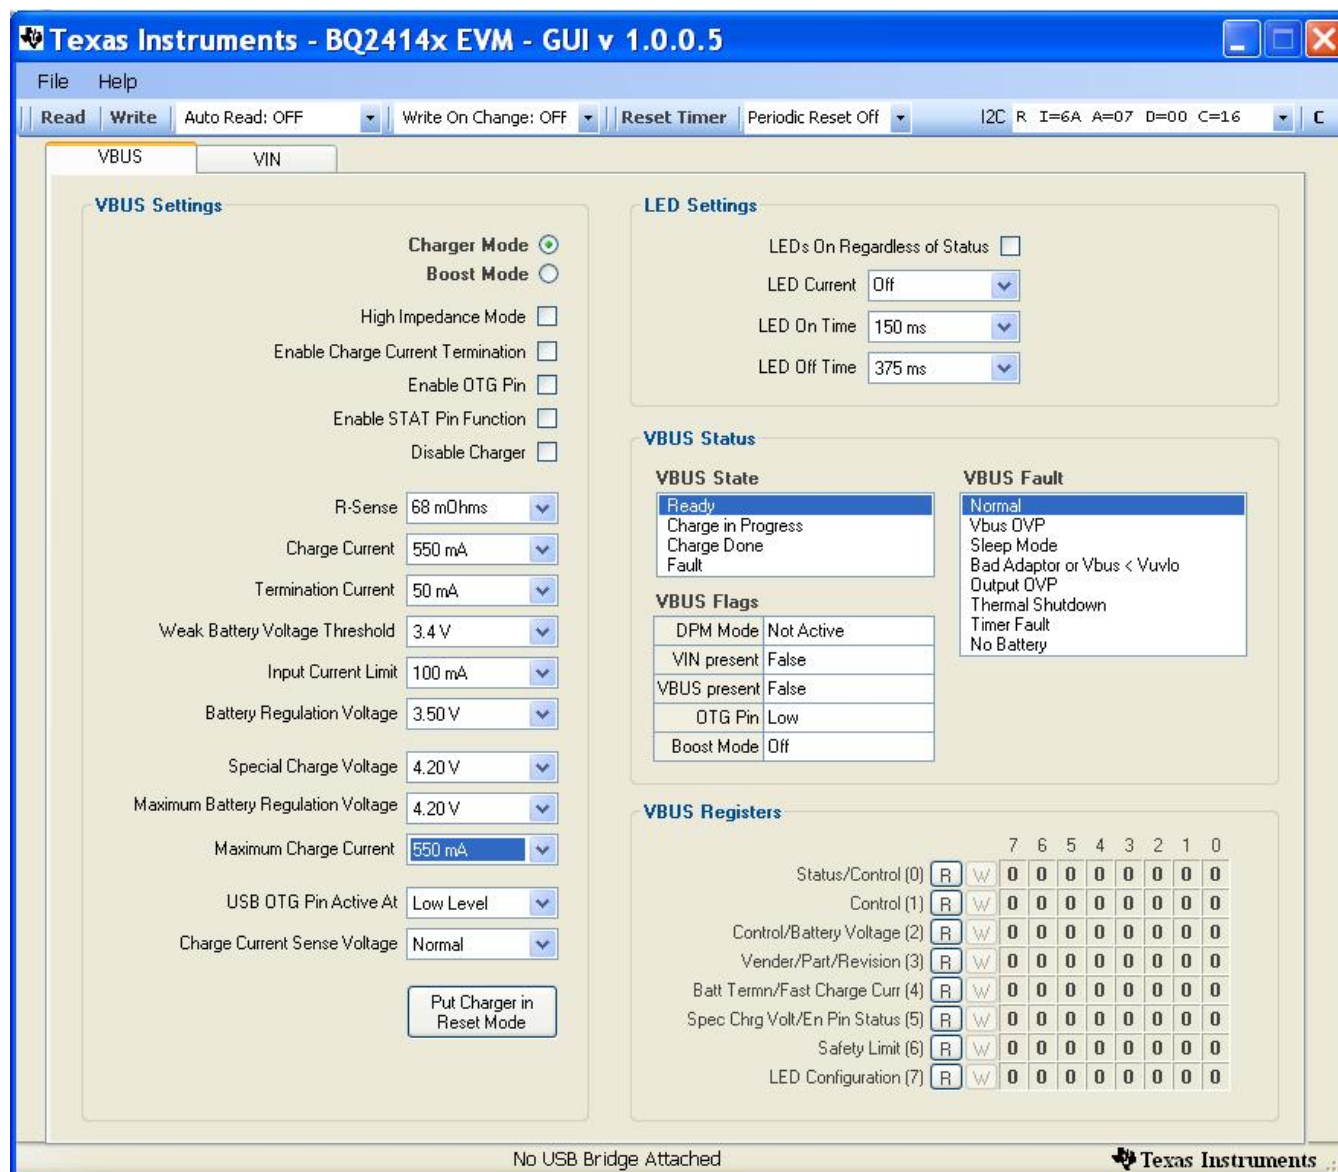

Figure 3. Main Window of bq2414x Evaluation Software
10. Turn on the computer, and open the bq2414x evaluation software. The main window of the software is shown in Figure 3.